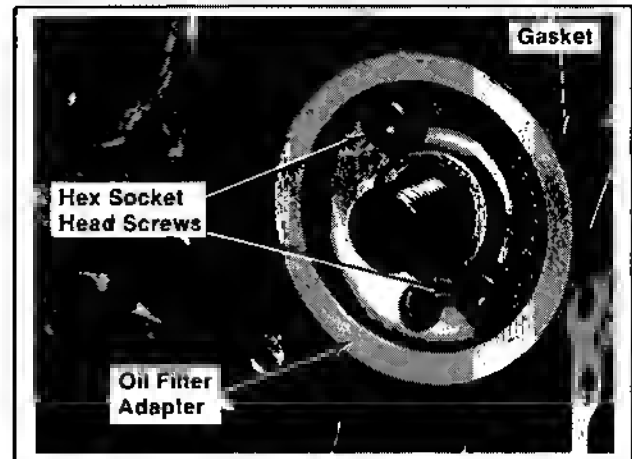

Figure 9-30. Removing Oil Filter Adapter.
1. Remove the hex. socket head screws, oil filter adapter, and gasket. Refer to Figure 9-30.